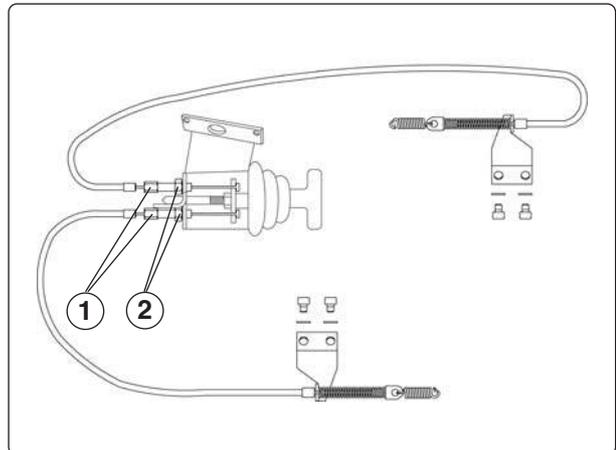

Fig. 17. Brake release system.
4. Slacken the locknut, see fig. 17:2.
5. Screw the adjusting screw fully in, see fig. 17:1.